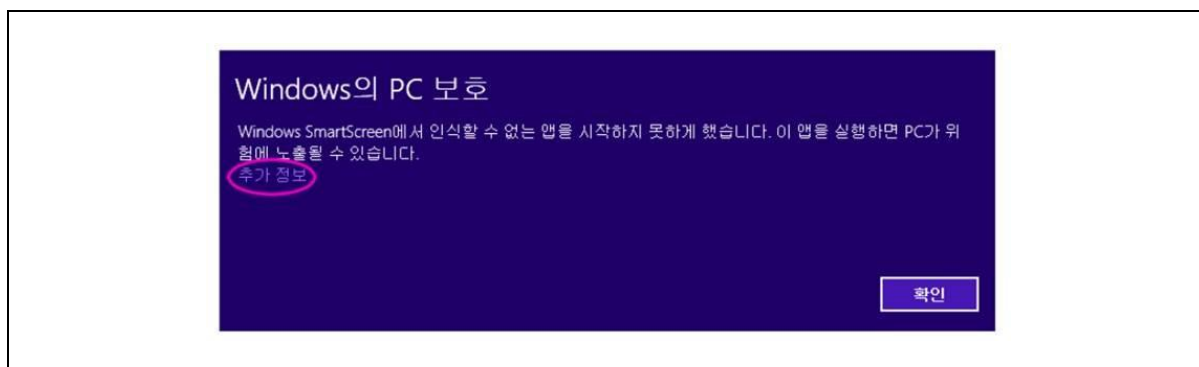

Figure 17. Windows' Warning Message
10. If the executable cannot be executed with a pop-up shown in Figure 17, right-click on the file for the context menu.